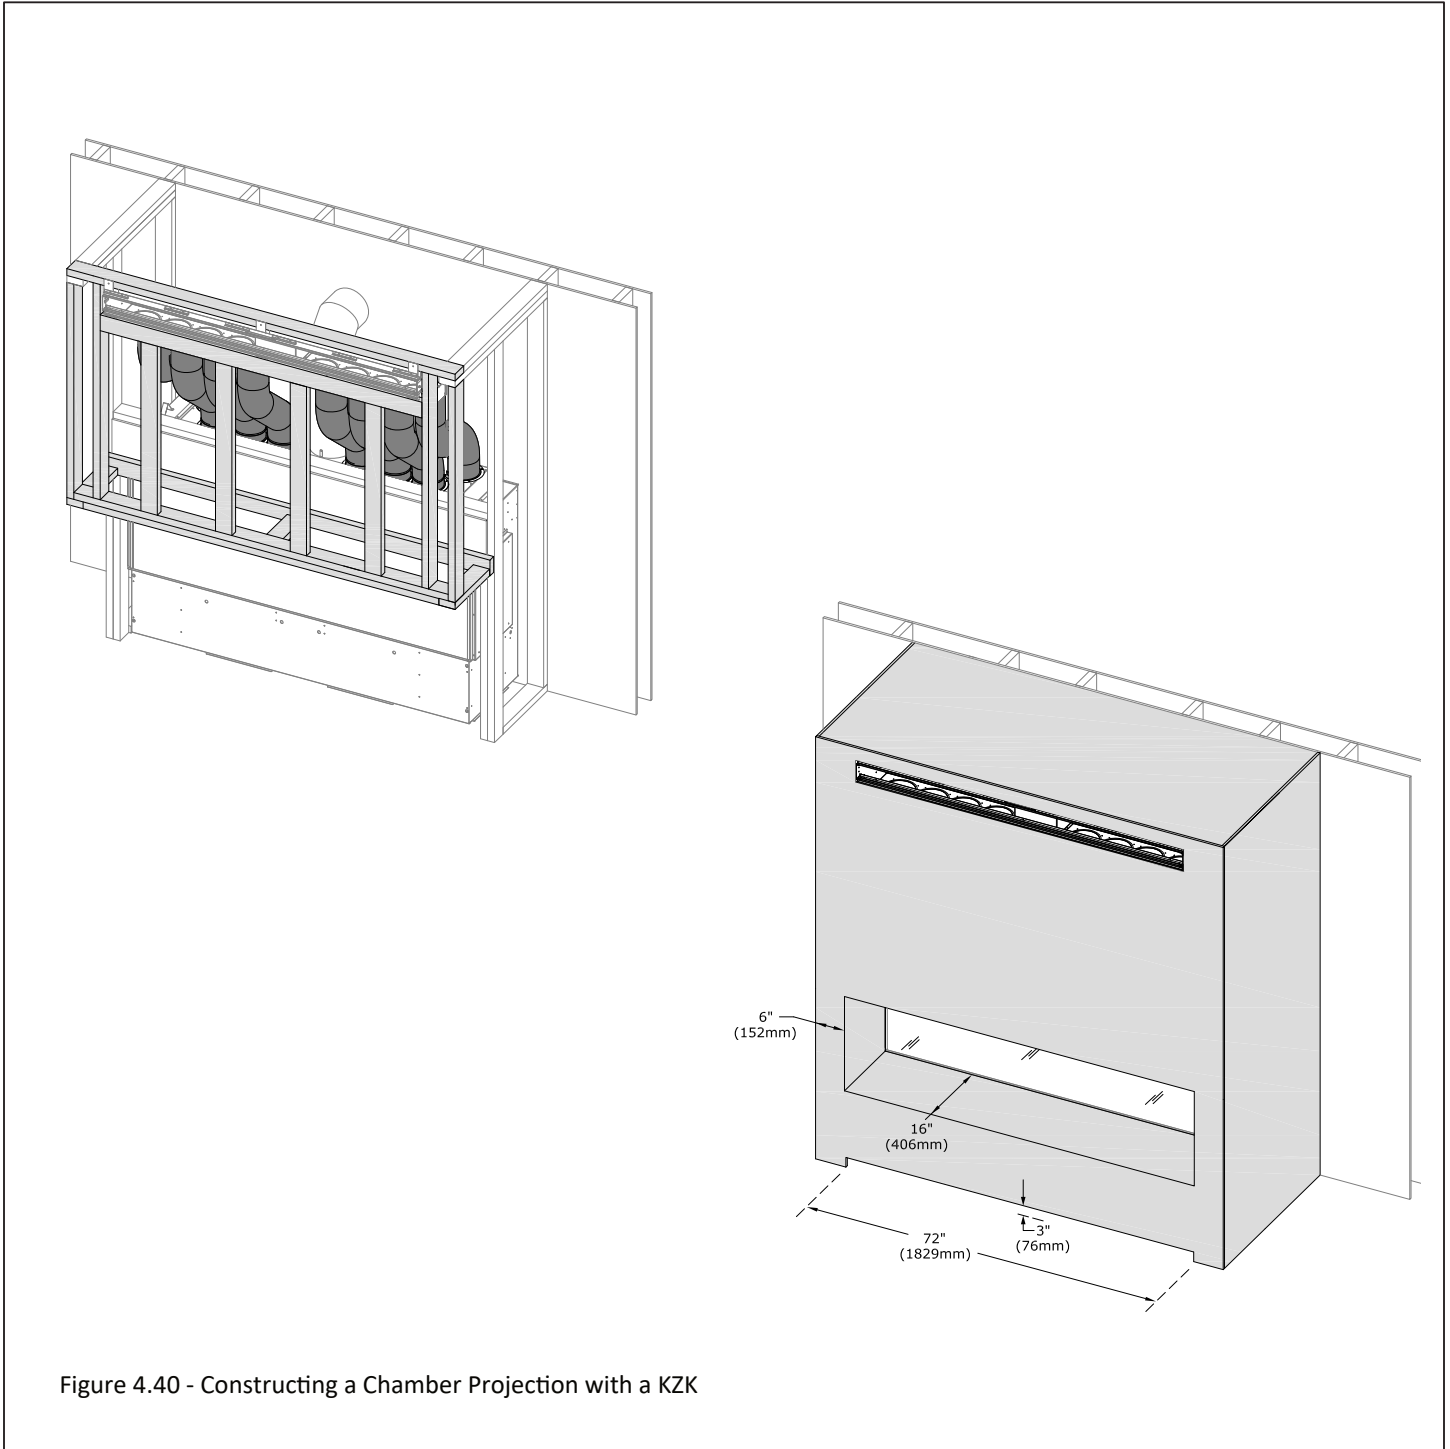

Figure 4.40 - Constructing a Chamber Projection with a KZK
- **Combustible Mantel Leg:** A mantel leg can be installed at 0" (0mm) to the fireplace side finishing edge. Refer to Figure 4.40 which shows a combustible projection up to a max of 16" (407mm) on the fireplace side finishing edge.